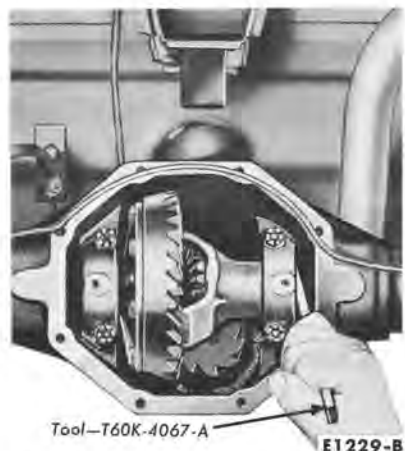

FIG. 18—Backlash and Bearing Preload Adjustment
5. Install the bearing cap bolts and lockwashers. As the bolts are tightened, turn the adjusting nut with the tool shown in Fig. 18.